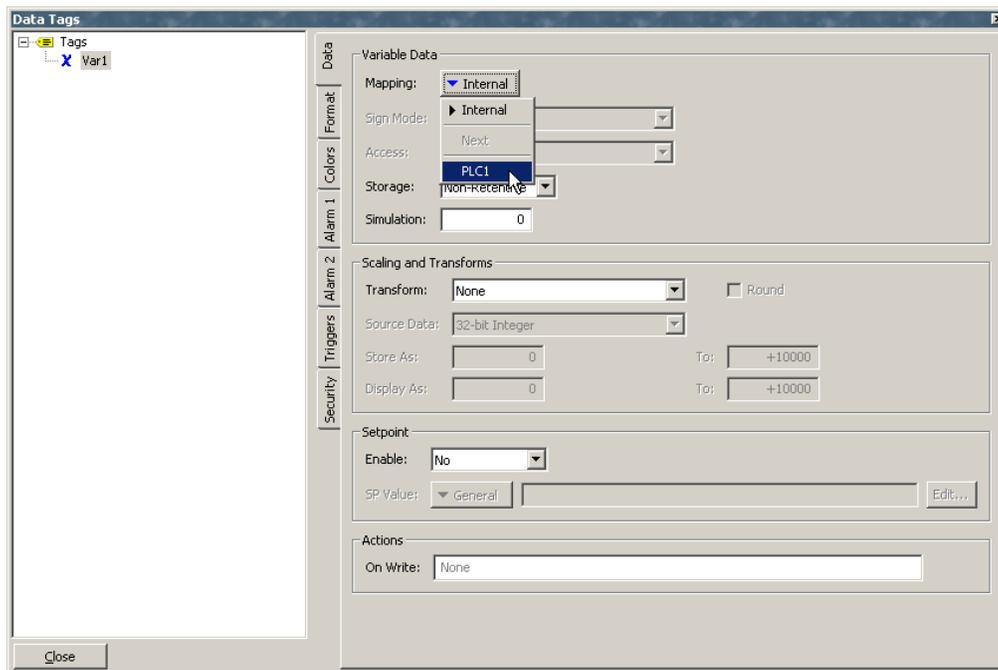

Fig. 8
- On the right hand pane, click the Internal button next to mapping and select the device to map the tag to. Fig. 8.